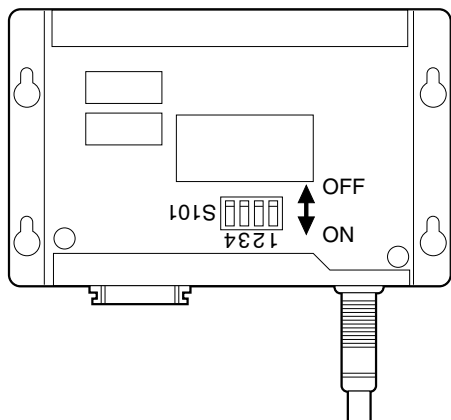

Fig. 3-1
2. Reset the dip switches on the printed circuit board (Fig. 3-1. S101) by referring to Tables 3-1 and 3-2.